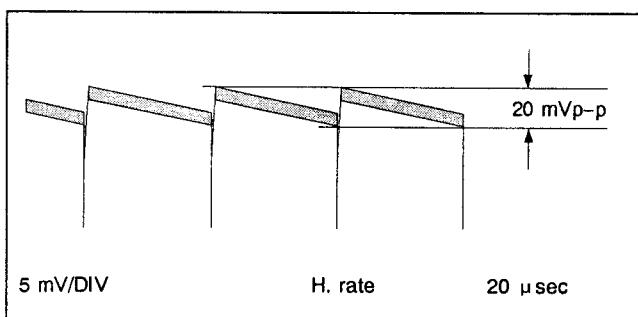

Fig. 3-11-1 REC PLL (14 MHz)
2. Adjust L203 so that the waveform level is 20 mVp-p or less as shown in Fig. 3-11-1.